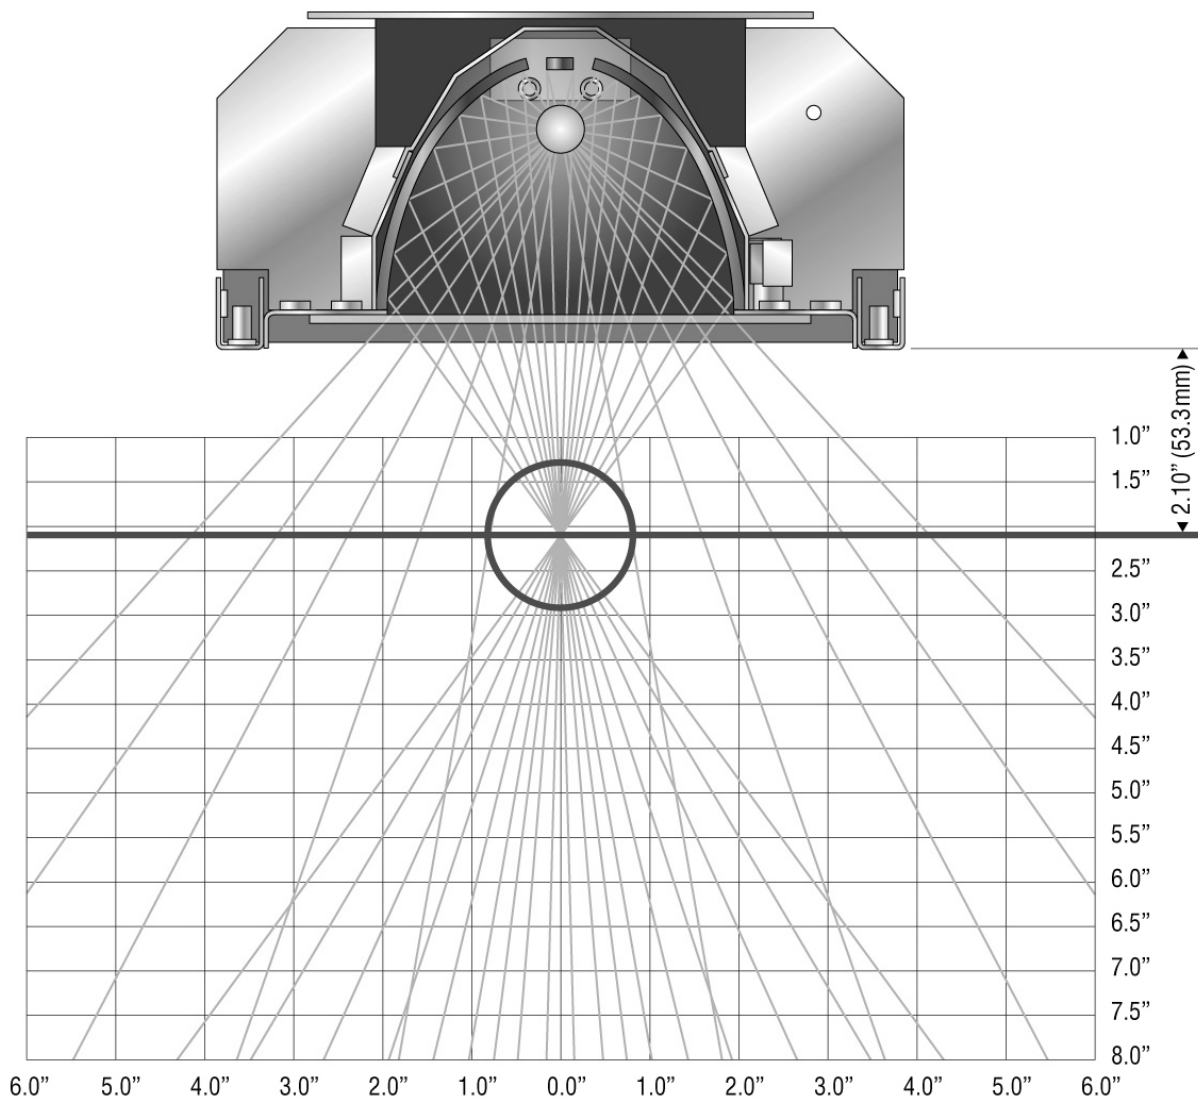

Figure 2-2 2.1-In. Focus Reflectors
- The focus reflectors are available in 2.1- (53 mm) and 3.1-in. (79 mm) focal lengths. The focal point is measured from the bottom of the lamphead. See Figures 2-2 and 2-3.